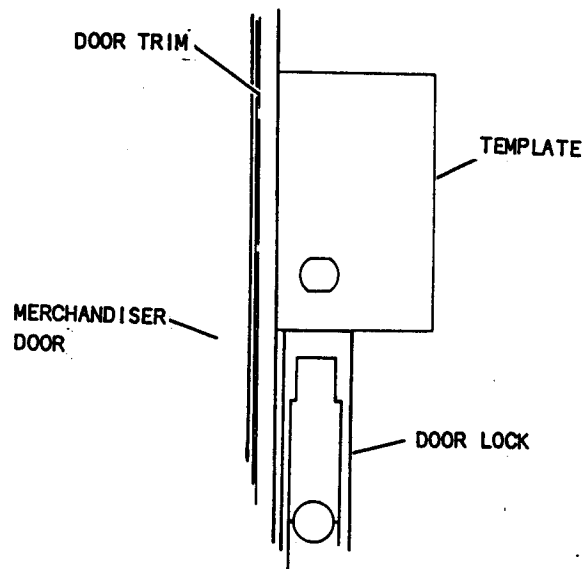

FIGURE 2
2. Position the template as shown in Figure 2. Use tape to hold template in place during the drilling operation.